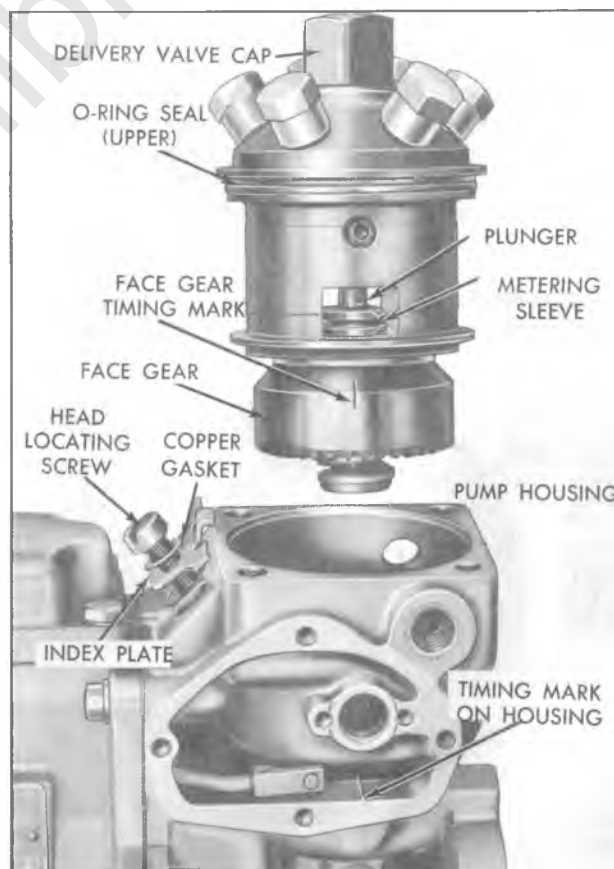
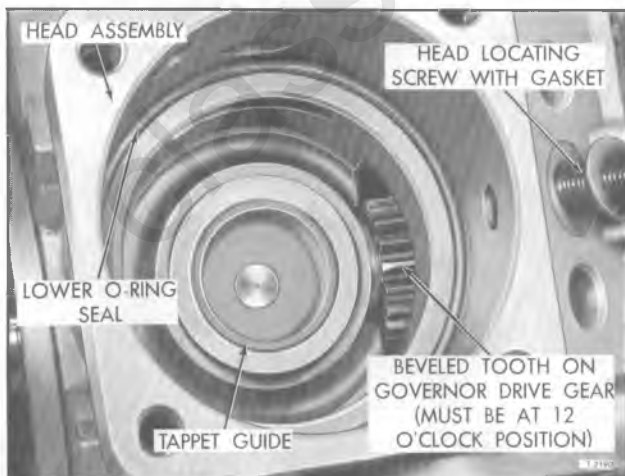

Figure 36—Fuel Injection Pump Hydraulic Head Assembly Replacement
Figure 37—Fuel Injection Pump Cavity with Hydraulic Head Removed (Typical)
1. Using a clean screwdriver, carefully insert it through the control unit opening in the pump housing and carefully move the metering sleeve (fig. 36) downward to its lowest position on plunger.
Refer to figure 36 for identification of various items involved in hydraulic head replacement.
NOTE: The hydraulic head assembly which is shown in figure 36 is available for service use and is complete with face gear and plunger. If a new hydraulic head assembly is required, it will be necessary to remove the fuel injection pump assembly from the engine assembly; and the pump assembly MUST be recalibrated on equipment designed for this purpose after the service head is installed. In cases where the hydraulic head is in satisfactory operating condition, but it becomes necessary to remove the head assembly to replace the O-ring seals or other parts of the pump, it is possible to remove and install the hydraulic head without removing the pump assembly from the engine. Recalibrating is not required if the head replacement procedure is followed exactly as explained under "Removal" and "Installation."
a. Remove the head locating screw, gasket, and indexing plate. Remove four socket head screws and retainers which attach the hydraulic head to the pump housing (fig. 36).
b. Tap the hydraulic head assembly lightly with a plastic or lead hammer or slightly rotate the assembly with a wrench on the delivery valve cap to loosen it in housing bore. Raise the hydraulic head assembly up out of the pump housing. Remove upper seal ring (fig. 36) from groove in head assembly. Remove the head lower seal ring (fig. 37) from bottom of bore in pump housing. DO NOT TURN ENGINE CRANKSHAFT WHILE HYDRAULIC HEAD IS REMOVED FROM PUMP.
1. Lubricate the hydraulic head O-ring seals with petroleum jelly, then place lower ring in position at bottom of bore in pump body as shown in figure 37.
2. Place upper O-ring seal in groove in hydraulic head (fig. 36).
3. Position the hydraulic head assembly so the locating slot in head block is aligned with head locating screw; and turn face gear so that timing mark on gear is aligned with mark on housing (fig. 36). Carefully insert head assembly into housing bore. Observe face gear through the pump housing opening as head is pushed down into place. Teeth on face gear must mesh with drive gear teeth.
4. Install head locating screw with copper gasket and index plate (fig. 36), and if necessary, rotate head assembly so the locating screw can be turned freely - indicating no interference. Tighten locating screw to 10 to 11 foot-pounds torque.